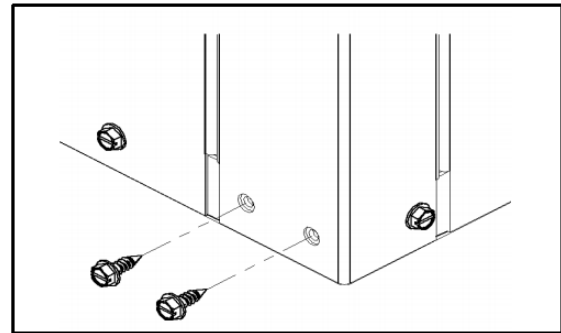

Fig. 4 — Removing Factory Screws
1. Remove and discard factory-provided screws from location where hanging brackets will be installed. See Fig. 4.